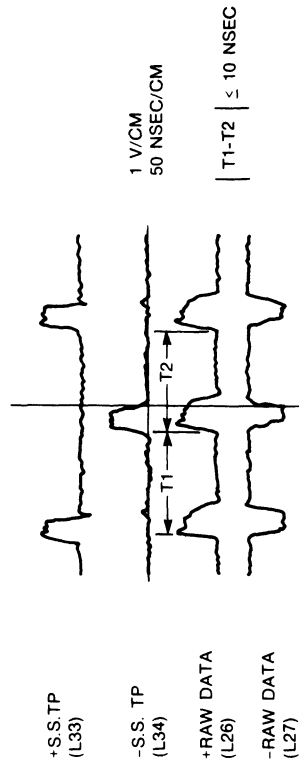

FIGURE 3-71. BIDIRECTIONAL ONE SHOT
- The maximum bit shift for clock or data pulses in a train of 0000 or 1111 bit pattern must be within  $\pm 10$  ns, measured at D19-L26 (+Raw Data) and D19-L27 (-Raw Data). This requirement must be met at any cylinder and particularly at cylinder 814 (RP06) or cylinder 410 (RP05), (Figure 3-71).